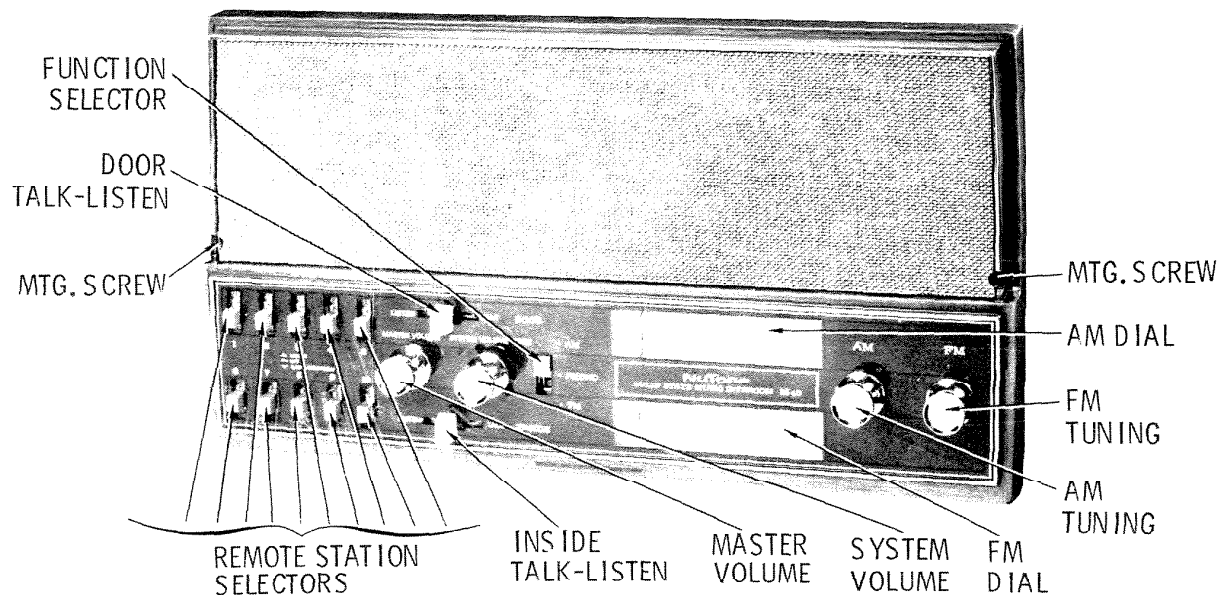

Fig. 1. Master Station Front Panel.
2. Remove two front panel mounting screws (Fig. 1).